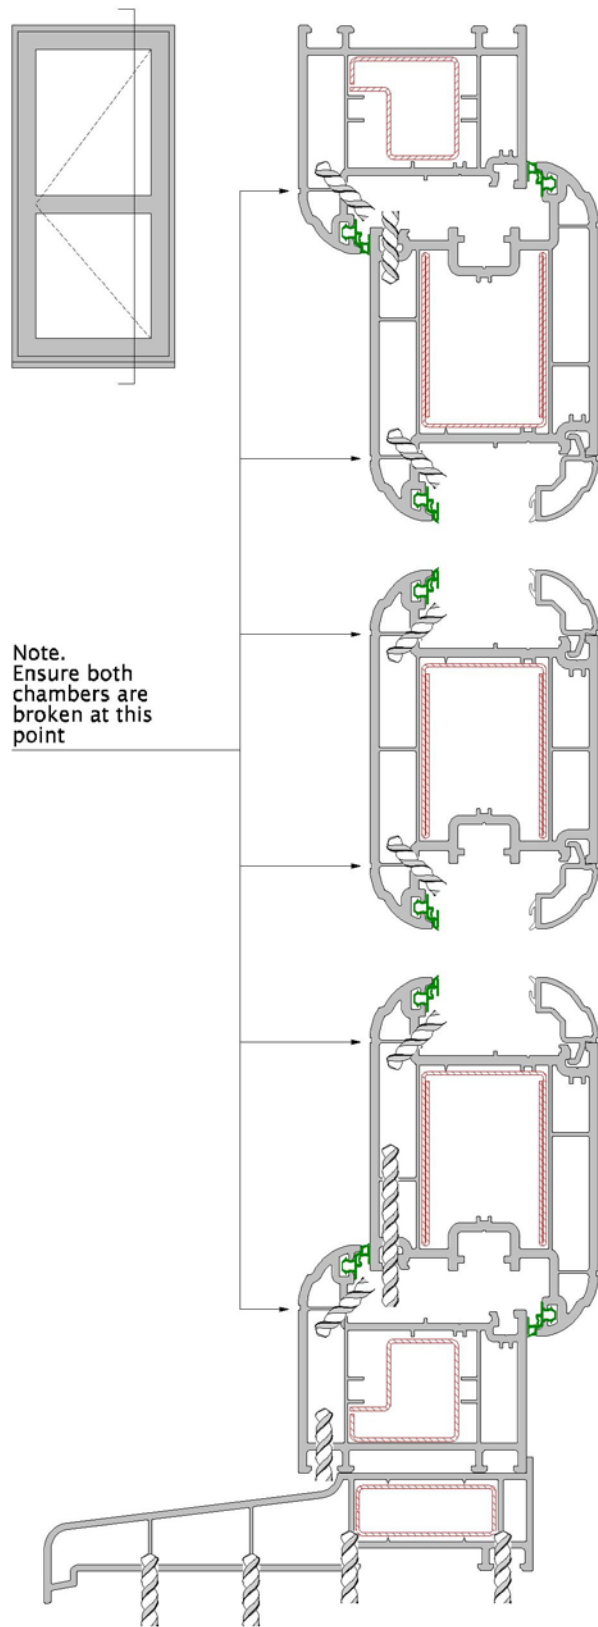

Figure 3a
6.2 To prevent the internal chambers of the profile from retaining heat they should be ventilated by the provision of Drainage and Vent slots/holes top and bottom . (Refer to Drg Figs 3a and 3b)